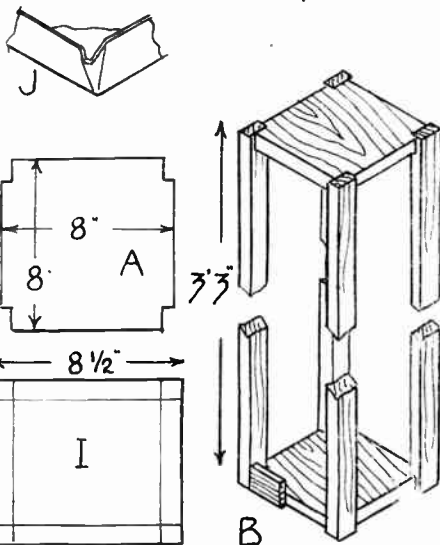

Fig. 1—The carcase of the framework
Fig. 1 shows the method of building it, the carcase being four upright strips of wood, joined together at top and bottom with the two pieces of timber, shown at (A). These parts are cut to the dimensions given from  $\frac{3}{4}$  in. thick wood. At each corner cut out a piece 1 in. long and  $\frac{1}{2}$  in. wide. The four uprights are of  $1\frac{1}{2}$  in. by  $\frac{3}{4}$  in. section, and can well be sawn from a piece of the  $\frac{3}{4}$  in. thick board from which parts (A) have been cut.